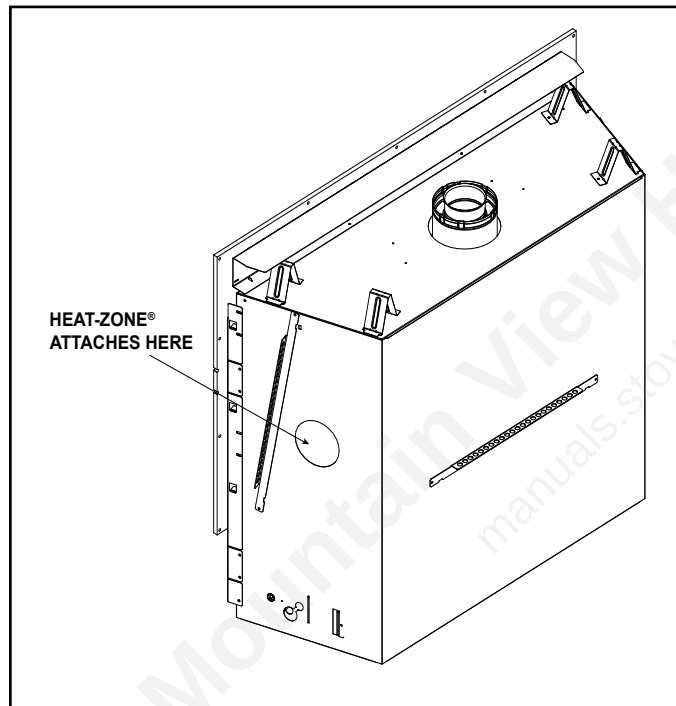

Figure 8.5 Heat-Zone® Locations
- Locate the Heat-Zone® ports on the left and right sides of the appliance. Either one or two Heat-Zone® Gas Kits may be installed. Only one Heat-Zone® Plus Kit may be installed. See Figure 8.5. Remove the knockouts from the appliance with a tin snips.